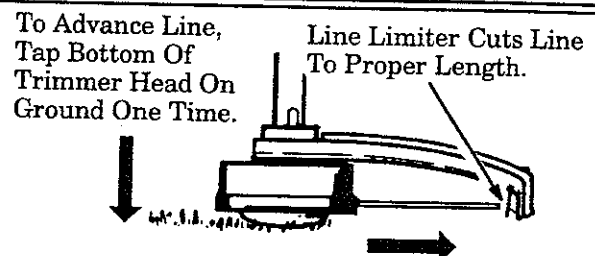

Figure 13
- Always keep the shield in place when the tool is being operated. Figure 13.
3. Tap the bottom of the trimmer head lightly on the ground one time. See Figure 13. Approximately 2 inches of line will be advanced with each tap.